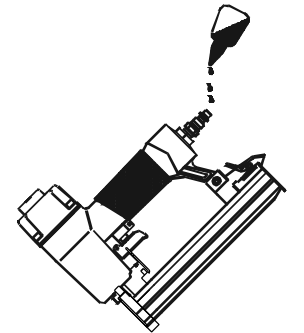

Figure 2
2. Place two (2) drops of air-tool oil (figure 2) into the air plug at the rear of the nailer. If you are using an automatic in-line oiler, check and add oil if necessary.